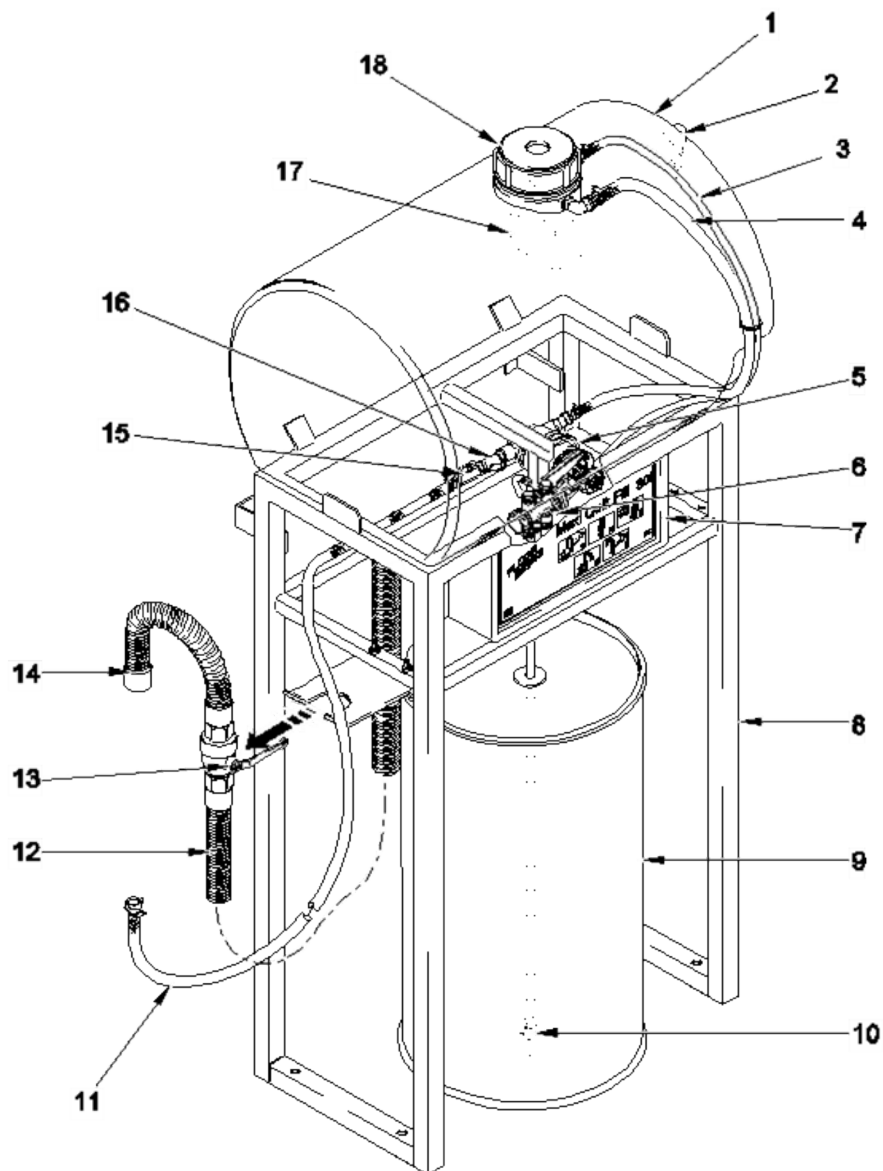
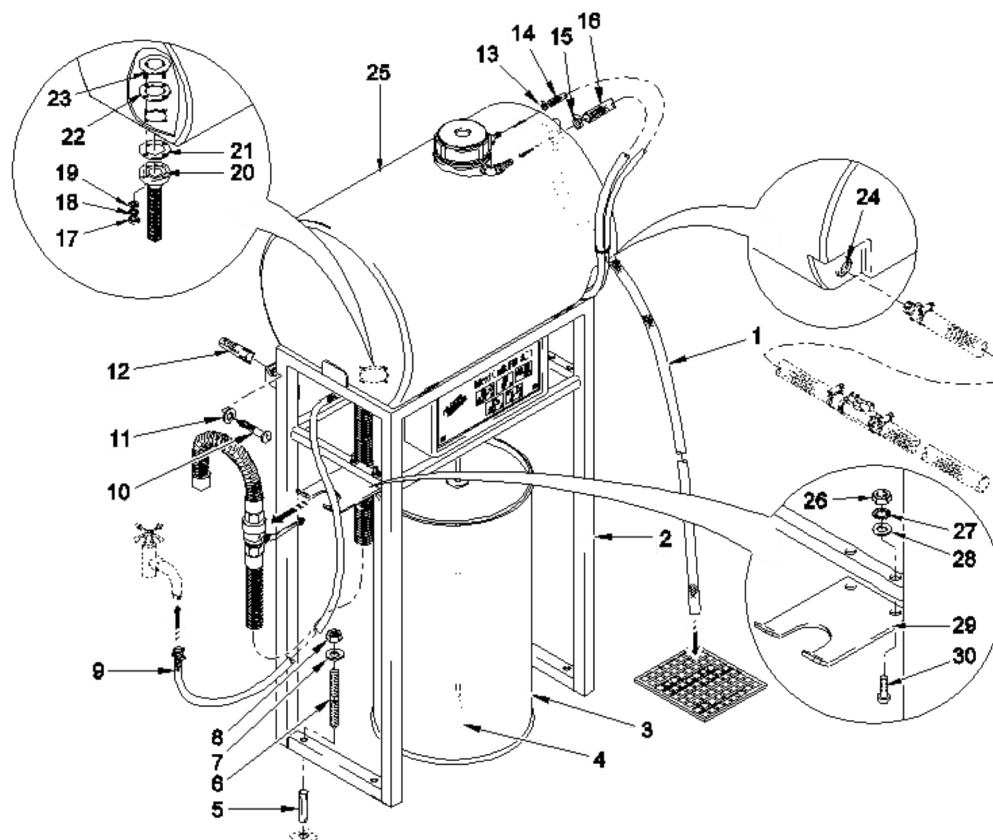

Fig. 3: Assembly MAXI QUICK FILL
Fig. 4: Overview: mounting and hose connections
If the filling level in the storage tank (☞ *Chapter 4 'Assembly' on page 22, Fig. 3, item 1*) drops below this level, cleaning agent is sucked in from the product storage container (Fig. 3, item 9) and dosed into the tank by the dosing pump (Fig. 3, item 6) via its own inlet in proportion to the quantity. At the same time, fresh water is supplied to the storage tank.
The dosing pump is driven by the water motor (Fig. 3, pos. 5).
As soon as the filling level is reached, the filling valve (Fig. 3, pos. 17) within the tank closes and the product supply is shut off.
The dispensing action is started, as soon as the red lever (Fig. 3, pos. 13) of the filling cock is turned to the ON-position.
The concentration of the „ready-to-use“ solution can be adjusted between 0,5 and 4,0 % at the excenter of the water motor (see Fig. 3).
3. ➤ Insert anchors / dowels (☞ *Chapter 5 'Unpacking, Mounting and connection' on page 23, Fig. 4, pos. 12*) into the drilling holes of wall.
4. ➤ Insert the cartridges (Fig. 4, pos. 5) to drilling holes in the floor and insert threaded bolts (Fig. 4, Pos. 6).
5. ➤ Attach the rack to the floor by using washers (Fig. 4, pos. 8) and nuts (Fig. 4, pos. 7) after the prescribed dry-out time has expired.
6. ➤ Attach the rack to the wall by using screws (Fig. 4, pos. 10) and washers (Fig. 4, pos. 11).
7. ➤ Lift solution tank on rack and perform the hose connections according to ☞ *Chapter 5 'Unpacking, Mounting and connection' on page 23 and Fig. 4.*
2. ➤ Unscrew the four nuts (☞ *Chapter 5 'Unpacking, Mounting and connection' on page 23, Fig. 4, pos. 17*) with lock washers (Fig. 4, pos. 18) and washers (Fig. 4, pos. 19) from the threaded bolts of the counter ring (Fig. 4, pos. 24).
3. ➤ Attach flange (Fig. 4, pos. 20) of dispensing hose together with seal ring (Fig. 4, pos. 21) to the counter ring (Fig. 4, pos. 23) using it's nuts and washers.
3. ➤ Connect the water feed line (☞ *Chapter 5 'Unpacking, Mounting and connection' on page 23, Fig. 4, pos. 16*) to the tank using hose clamp (Fig. 4, pos. 15), (according to installation kit).
4. ➤ Connect the product feed line (Fig. 4, pos. 14) to the tank using hose clamp (Fig. 4, pos. 13), (according to installation kit).
5. ➤ Lead the end of the safety overflow hose (Fig. 4, pos. 1) to an appropriate drainage.
1. ➤ Remove the screw plug (↗ *Chapter 5.3 'Connections' on page 24*, Fig. 4, pos. 24) from the tank.
1. ➤ Remove cover plate (↗ *Chapter 4 'Assembly' on page 22*, Fig. 3, pos. 7) from support rack (Fig. 3, pos. 8) and remove product feed hose from pump (↗ *Chapter 5 'Unpacking, Mounting and connection' on page 23*, Fig. 4, pos. 6).
2. ➤ Carefully unscrew hose stem (Fig. 3, pos. 3) from the product feed line connection of the pump.
3. ➤ Seal the connector of the 3/2-way ball cock (Fig. 3, pos. 4) using teflon tape and install it to the product feed line connection of the pump.
4. ➤ Shorten the product feed hoses (Fig. 3, pos. 5 and Fig. 3, pos. 6), if required, and install them to both angled connectors of the ball cock.
- 1.** ➤ Close the shut-off cock ( ↪ Chapter 4 'Assembly' on page 22, Fig. 3, pos. 1) at the water motor.
- 3.** ➤ Turn the 3/2 way ball cock (Fig. 3, pos. 4) from pos. A (horizontal) to pos. B (vertical).